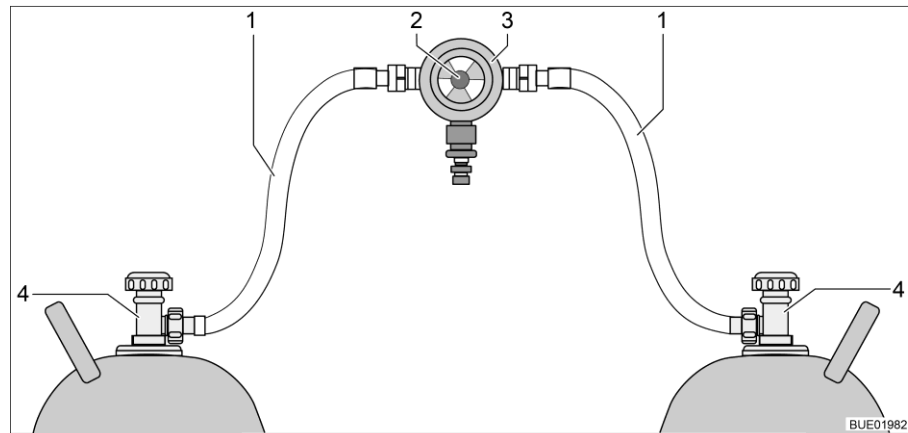
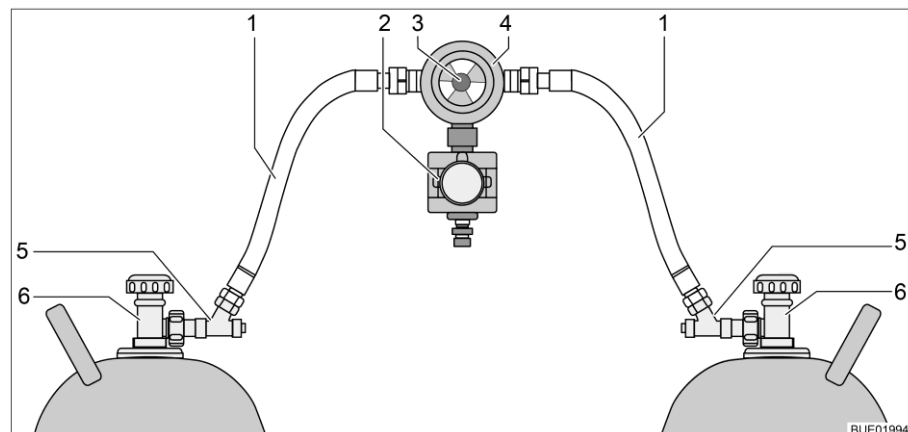

Fig. 64 Gas bottle switching facility
Fig. 65 Gas bottle switching facility with CPU
The gas bottle switching facility consists of a combined gas pressure regulator with reversing valve and indicator (Fig. 64,3). The gas bottle switching facility is installed between the two gas tubes (Fig. 64,1).
The gas bottle switching facility consists of a combined gas pressure regulator with reversing valve and indicator (Fig. 65,4), and an electrovalve (Fig. 65,2). The electrovalve blocks the gas supply to the vehicle in the event of a full braking, an accident, or an unusually great inclined position. The gas bottle switching facility is installed between the two gas tubes (Fig. 65,1) with hose break guards (Fig. 65,5).
**Function** The gas bottle switching facility ensures a constant gas pressure, regardless of which gas bottle is being drawn upon. The display in the reversing valve shows the filling level of the primary bottle. The gas supply comes from the primary bottle when the display is green. When the display is red the primary bottle is empty. In this case, the reserve bottle is used for the gas supply. Use the knob (Fig. 64,2 or Fig. 65,3) on the gas bottle switching facility to select which of the gas bottles is to be used as a primary bottle and which is to be used as a reserve bottle.
Only the electrical functions can be switched at the operating unit (Fig. 66). The regulator taps on the gas bottles (Fig. 64,4 or Fig. 65,6) must be opened and closed manually.
- Open the regulator taps of the gas bottles (Fig. 64,4 or Fig. 65,6).
- Press the hose break guards (Fig. 65,5) successively for 10 seconds.
- Use the knob (Fig. 64,2 or Fig. 65,3) on the switching facility to select the gas bottle which is to be the primary source of gas (primary bottle). Always turn the knob as far as it will go.
- Close the regulator taps of the gas bottles (Fig. 64,4 or Fig. 65,6).